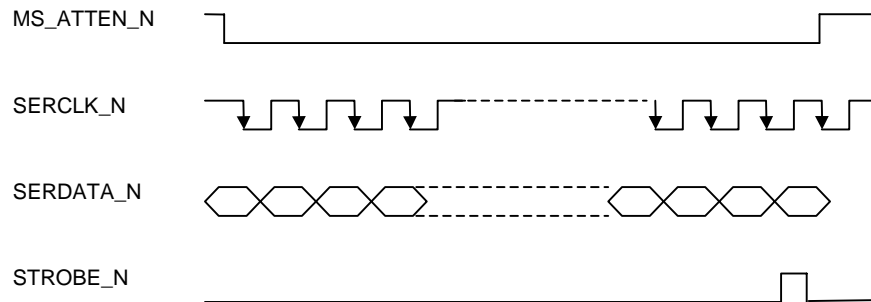

Fig. 3-1 Programming of attenuator, timing at interface X301.
- Characteristics** The control logic converts the serial setting data *SERDATA_N* (X301.13) into parallel data and stores them on the module. Register D10 contains setting data of the attenuation switches, register D11 setting data of the DAC and register D12 setting data for the diagnosis and over-voltage protection. The communication with the module is possible via serial interface X301.13 (*SERDATA_N*), X301.15 (*SERCLK_N*), X301.12(*STROBE_N*). The module is selected via X301.11 (*MS_ATTEN_N*). After the transmission of a 24-bit data word, the data are transferred as valid setting to the register memory with *STROBE_N* (Fig. 3-1).
Error cause	Communication with data memory of attenuator is disturbed. Flat cable W301 might be defective or data /EEPROM are faulty. <ul style="list-style-type: none"> ➤ Using storage oscilloscope, check the signal applied to X301.15 and X301.16 with log. 'L' applied to X301.11 in the selftest phase after power-on of SML (attenuator selected, cf. Fig. 3-1). Trace the signal to D13 (data memory, circuit diagram sheet 2).